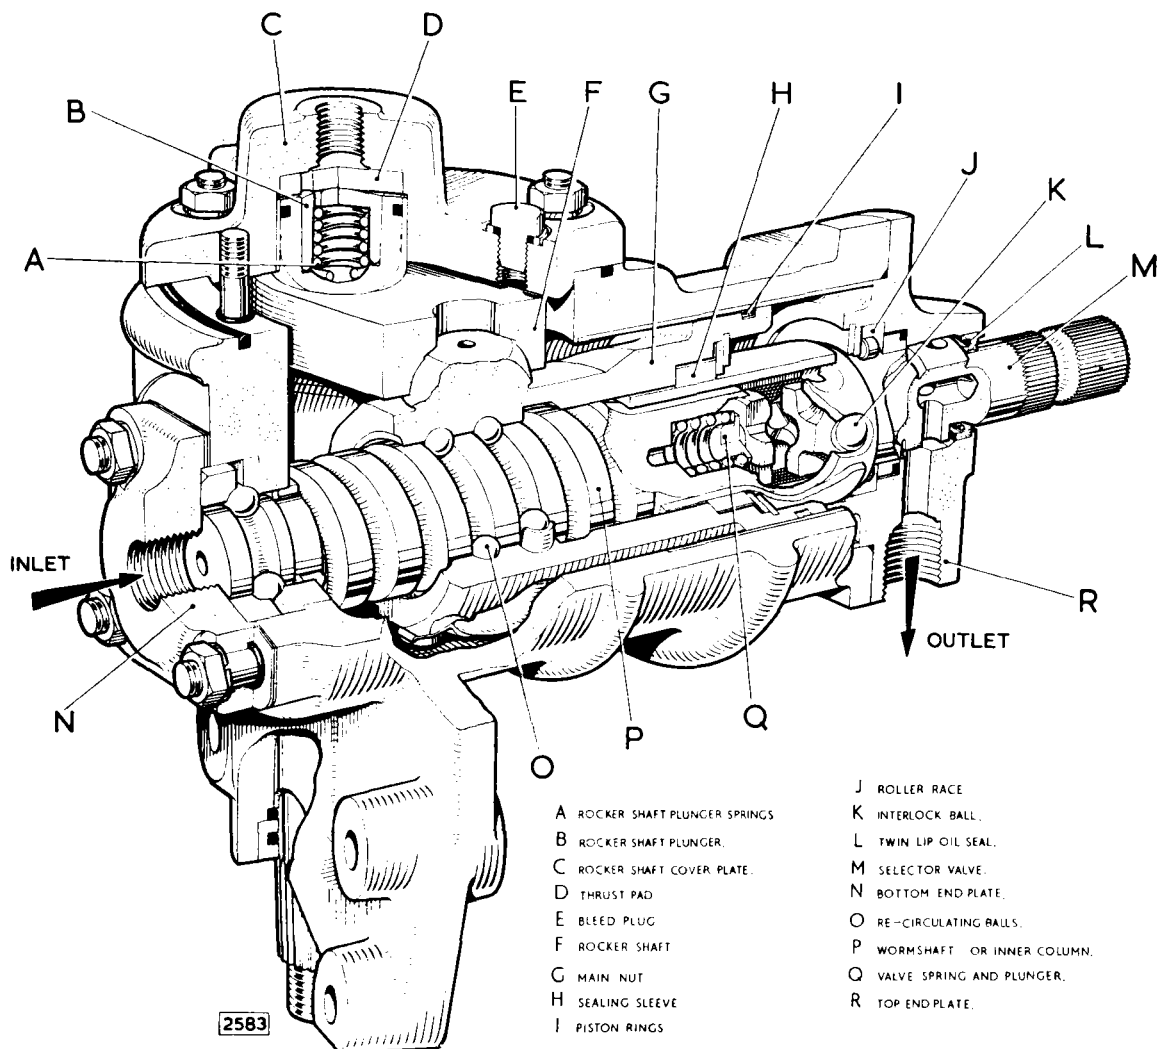

Fig. 18. Sectional view of the power-assisted steering unit.
The steering box is of the re-circulating ball worm and nut type in which hydraulic assistance is applied to a piston forming part of the nut (G, Fig. 18). The piston works within a cast iron cylinder pressed into the aluminium steering box casing, hydraulic pressure being admitted to one side or other of the piston, depending on which steering lock is applied.
The rocker shaft (F, Fig. 18) is of the normal spring-loaded type but when the steering is on lock the spring loading is augmented by the hydraulic pressure existing in the system.
Oil direct from the pump enters the steering box via the bottom end cover (N, Fig. 18) and passes up through a longitudinal hole in the wormshaft ; the valve being in its central position permits free flow of oil through the steering box to the outlet in the top cover (R). In this condition the oil is at low pressure and no thrust is applied to the piston.